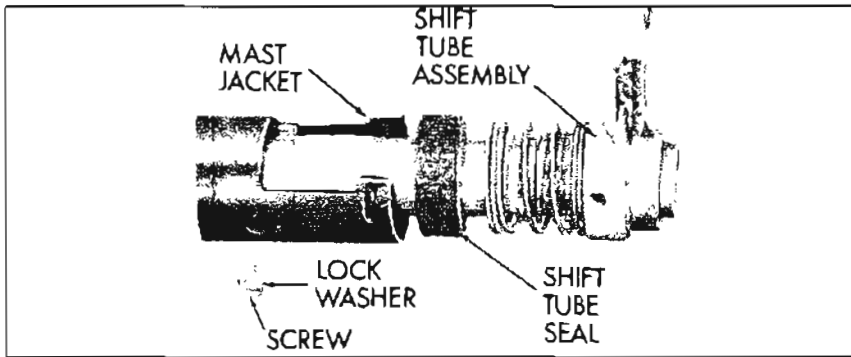

Figure 8-74—Removing Shift Tube and Felt Seal
12. Remove three screws and pull out shift tube assembly and felt seal. See Figure 8-74.